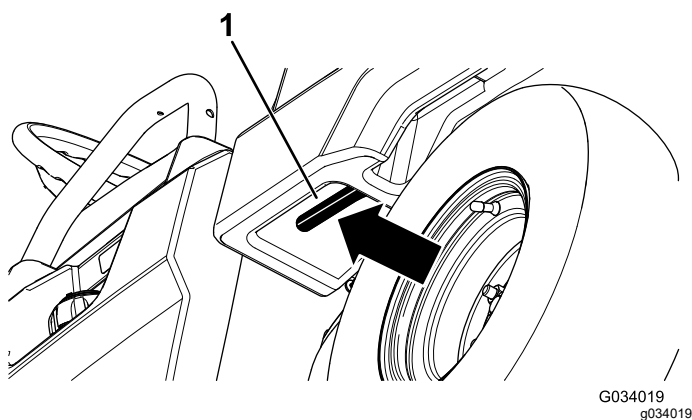

Figure 13
1. Pull the lever on left, inside of the cargo bed toward you and lift the cargo bed up (Figure 13).
1. Raise the cargo bed slightly by lifting up on the latch lever (Figure 13).